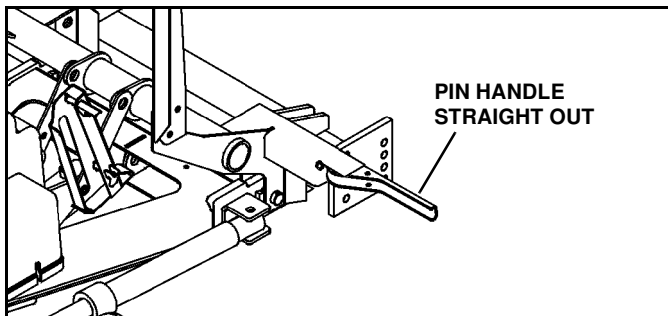

Figure 1-30
6. Push pin handles toward truck to unlock main pins. (See Figure 1-30).